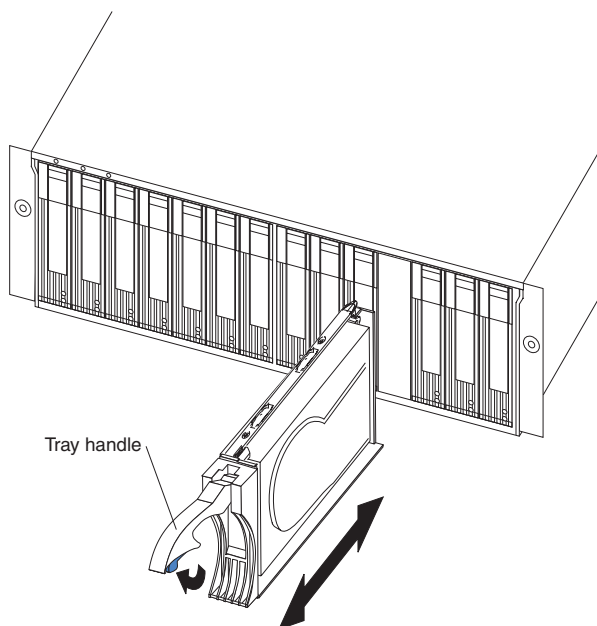

Figure 10. Removing drive CRUs
3. Pull the handle on the tray out so that it is in the open position and pull the drive out of the bay as shown in Figure 10 on page 16.